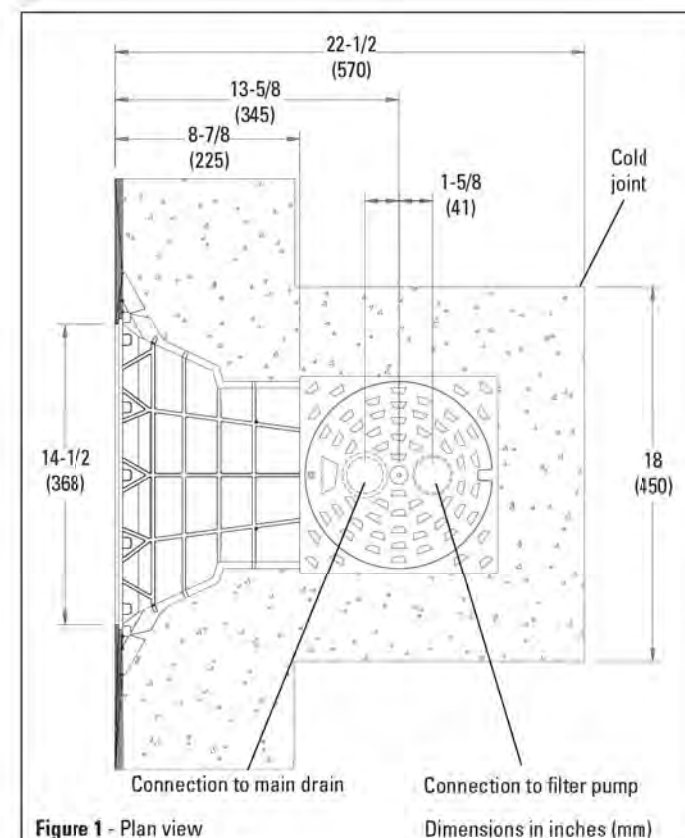

Figure 1 - Plan view
- 3. Connect the piping** to the skimmer as per Figure 1. The skimmer housing has solvent-weld connections that can accommodate 1-1/2" (38 mm) plastic pipe or 2" (50 mm) female plastic pipe fittings. The skimmer should be connected only to the filter pump, seal the unused connection from the underside with a solvent-weld 1-1/2" (38 mm) plug.